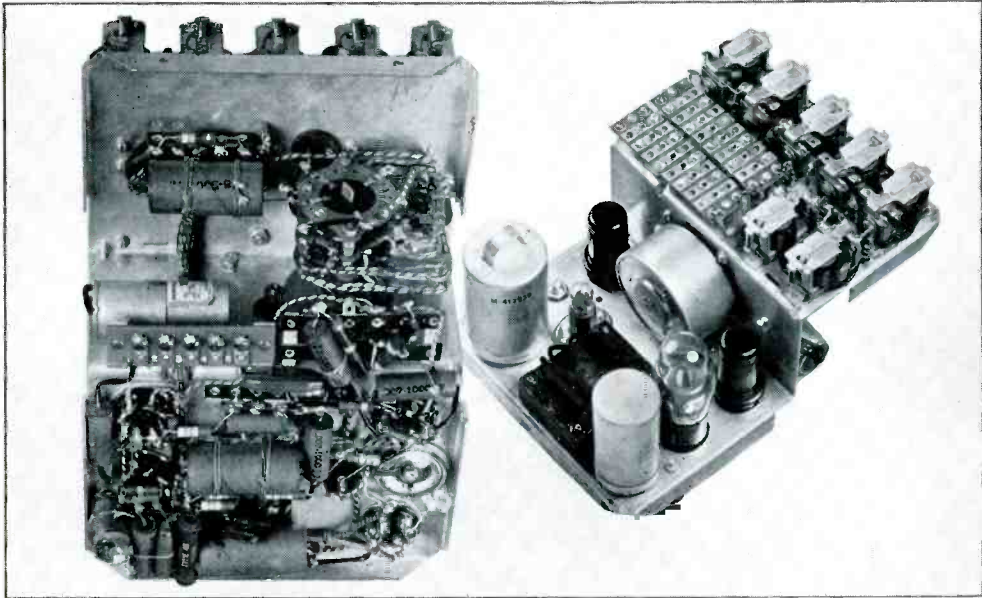

FIG. 7. BOTTOM AND TOP VIEWS OF THE RECEIVED SIGNAL DECODING UNIT
**Mobile Receiver Decoding Unit** ★ This unit, Fig. 7, is designed to respond to an individual coded signal and to a general or group-call signal as broadcast by the above station transmitter coding equipment. It causes an alarm to operate when the proper coded signal is received.